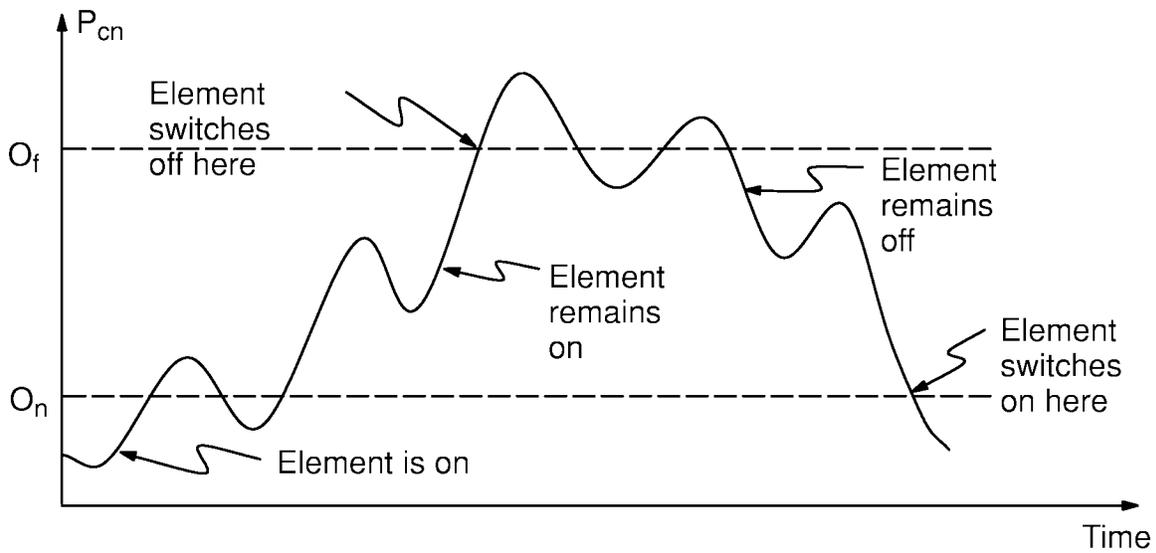
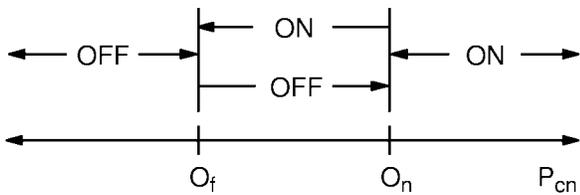
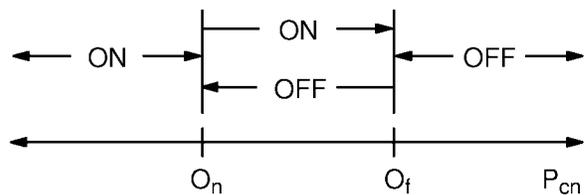
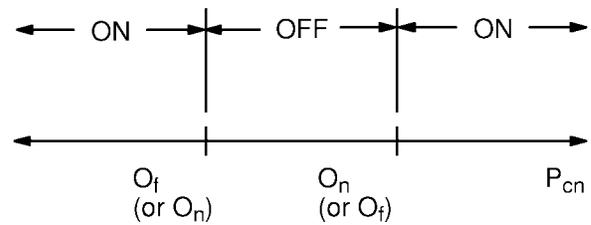

Figure 14.37-1 Element Behavior with KEYOPT(4) = 0, KEYOPT(5) = 1, and $O_f > O_n$
Figure 14.37-2 Element Behavior with KEYOPT(4) = 0, KEYOPT(5) = 0, and $O_f \leq O_n$
Figure 14.37-5 Element Behavior with KEYOPT(4) = 0, KEYOPT(5) = 1, and $O_f > O_n$
Figure 14.37-7 Element Behavior with KEYOPT(4) = 1 and KEYOPT(5) = 1
The action of the element in the structure is based upon the value of the control parameter (P_{cn}) (explained later), O_n and O_f (input quantities ONVAL and OFFVAL on **R** command), and the behavior switches KEYOPT(4) and (5). Figure 14.37-1 illustrates the behavior of one of the more common modes of operation of the element. It is analogous to the normal home thermostat during the winter.
The behavior of all possible combinations of KEYOPT(4) and (5) values is summarized in Figure 14.37-2 through Figure 14.37-7. Figure 14.37-5 is analogous to Figure 14.37-1. P_{cn} represents the control parameter (output quantity CONTROL PARAM). The element is active where the figure indicates on, and inactive where it indicates off. For some options, the element may be either on or off for P_{cn} between O_n and O_f , depending upon the last status change.